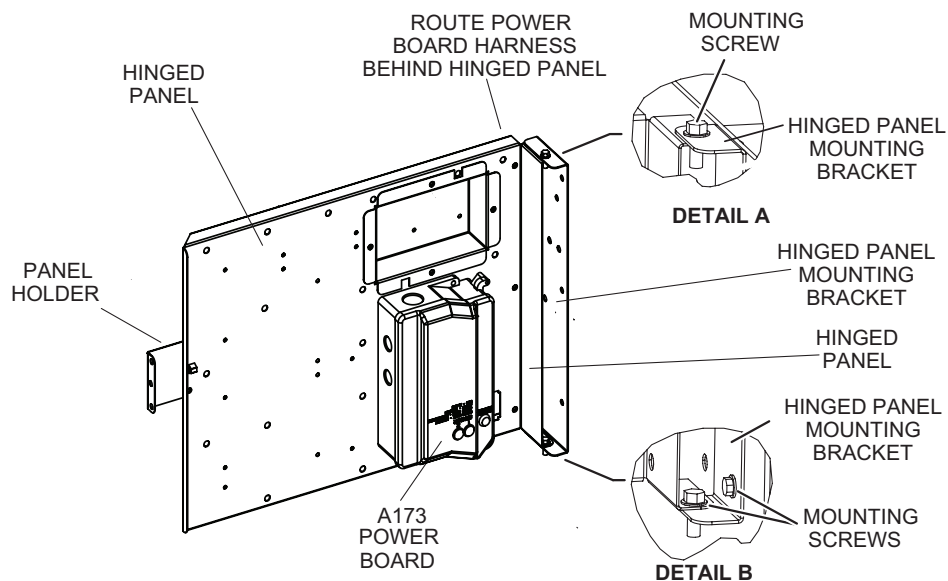

FIGURE 6
- 1 - Use two #8 - 32 X 1/2" screws to secure smoke detector hinged panel to hinged panel mounting bracket. See details A and B on FIGURE 6.